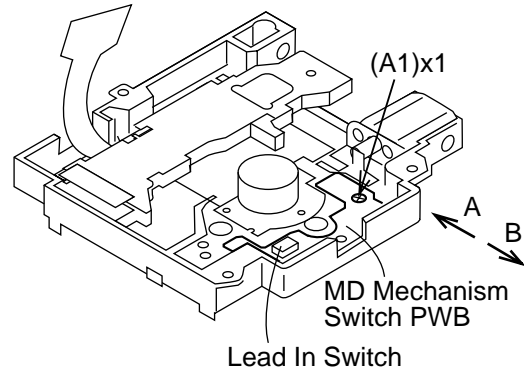

Figure 30-1
3. After adjusting the position, fix it with the screw (A1) x 1 pc. (See Fig. 30-1.)